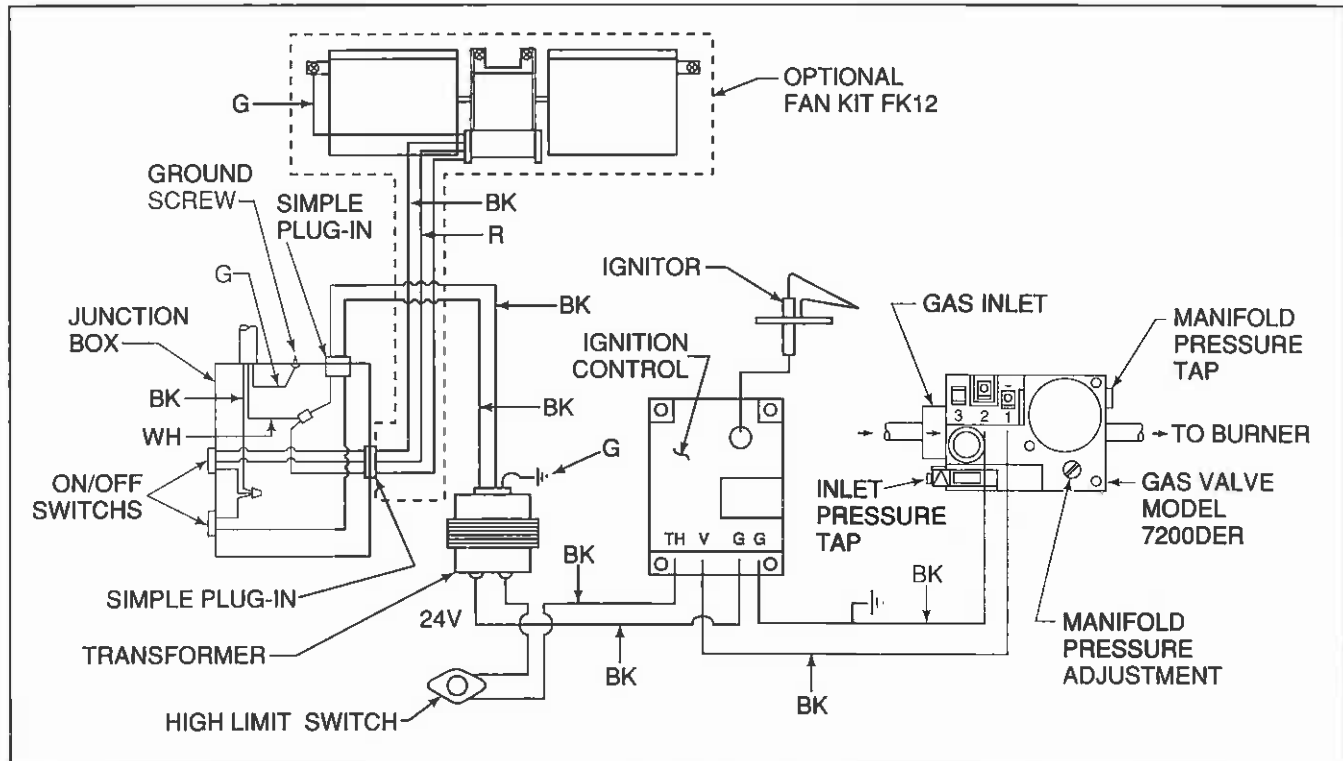

Figure 3
This appliance requires a 110V power supply. The appliance must be electrically wired and grounded in accordance with local codes or, in the absence of local codes, with National Electric Code ANSI/NFPA 70-latest edition or, in Canada, the current CSA C22.1 Canadian Electrical Code. If an optional FK12 Fan Kit or RC5 Remote Control Kit are to be installed, follow the wiring diagrams that are provided with these accessories and Figure 3.
LIGHTING PROCEDURE (See Figure 3)
B. No ground.	Check that wiring is grounded as shown in Figure 3.